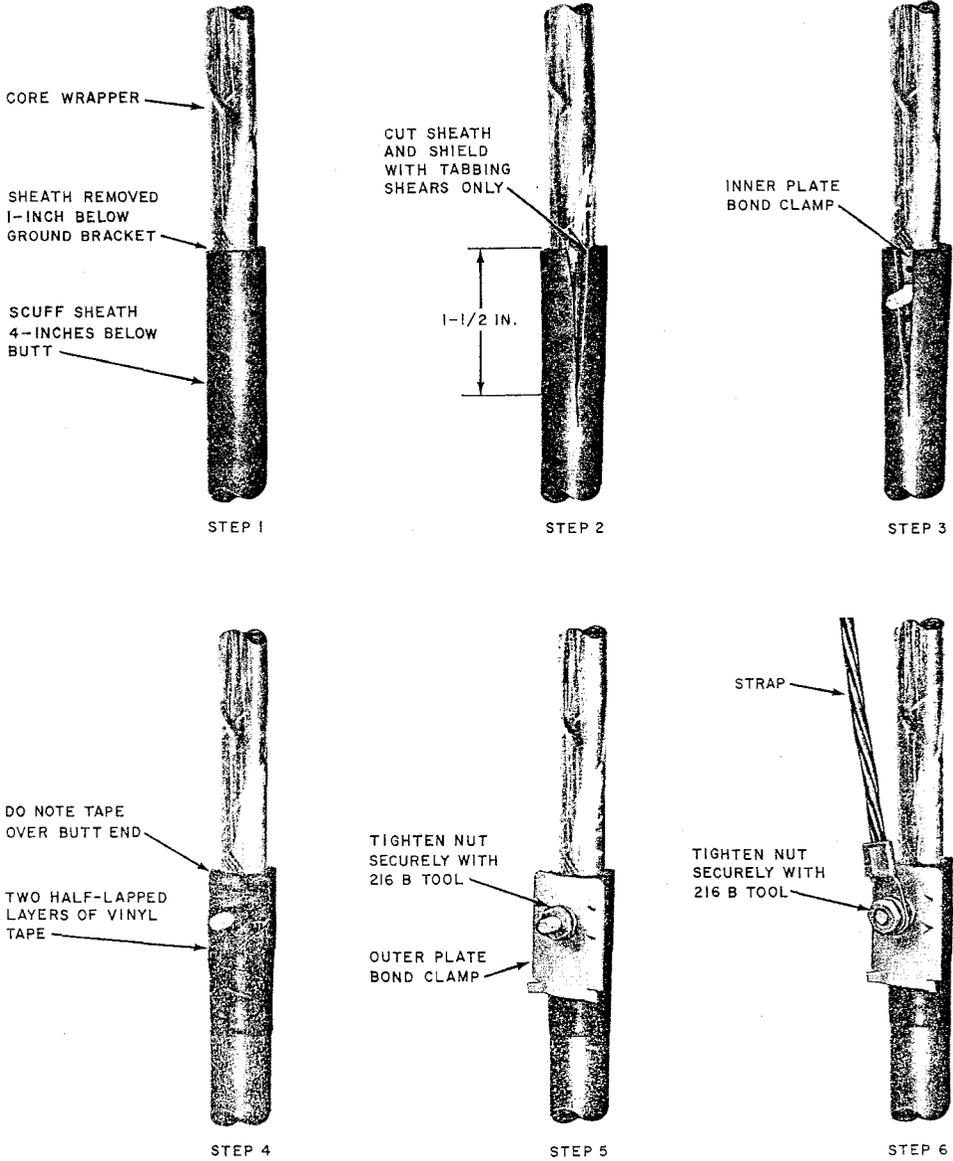

Fig. 5—Bond Clamp and Strap Placed
- (d) Place the B or C Bond Clamp and Strap as illustrated in Fig. 5.
Note: Where existing tabs cannot be reused, place the bond clamp as illustrated in Fig. 5. Section 631-600-301 covers the replacement of bonds in existing cables.